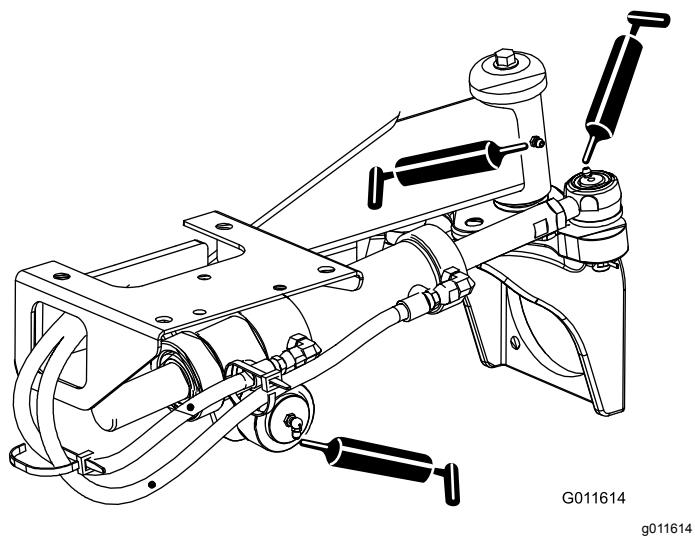

Figure 66
- Steering-cylinder ball joints (2) and rear axle (1)—Figure 66